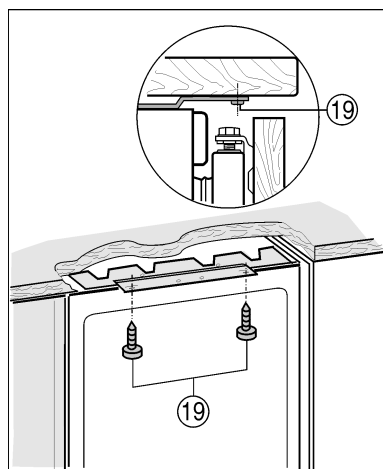

Fig. 15
- ▶ Screw in long chipboard screws Fig. 15 (19) at the top.